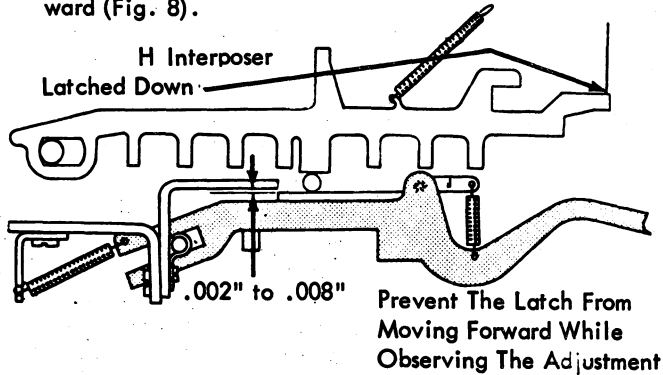

FIGURE 8. Cycle Clutch Release Point Adjustment
7. **Cycle Clutch Release Point - Adjust the cycle clutch keeper vertically for .002" to .008" clearance between the pawl and the keeper with the H interposer latched down.** The clearance must be observed at the point of unlatching because it increases as the latch moves forward (Fig. 8).